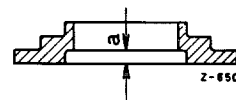

Fig. 01-4/28
For shouldered valve guides only thrust collars, part No. 121 053 01 62 with the dimension  $a = 2.2 + 0.2$  mm may be used, and for valve guides with snap ring only thrust collars, part No. 121 053 02 62, with the dimensions  $a = 1.1 + 0.2$  mm (Fig. 01-4/28).
**Note:** More recently valve shaft sealing on Models 190 SL, 190 c and 180 c is from the beginning as shown in Fig. 01-4/20 c and 01-4/20 d.